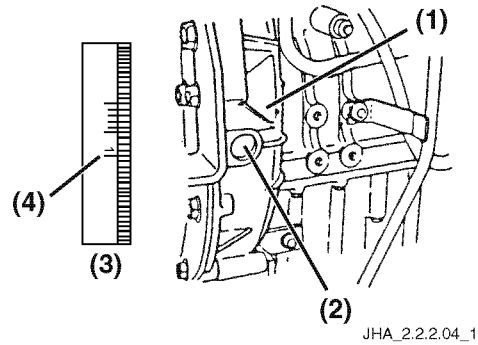

Figure 4-34
4. Disconnect the injection line on the fuel pump side for the No. 1 cylinder (**Figure 4-34, (5)**). (Do not remove the delivery holder.)
10. Read the timing scale on the flywheel through the hole in the flywheel housing (**Figure 4-34, (2)**).